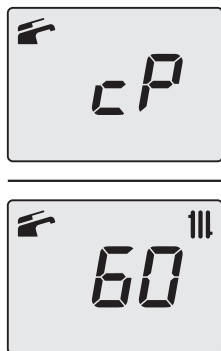

Figure 9.25
- Press button 15 (Figure 9.20) to vary the output in chimney sweep mode: when the LCD displays the letters **cP** that alternate with the temperature of the heating water (e.g. **60**), the "chimney sweep function" is at maximum output in heating mode (Figure 9.25).